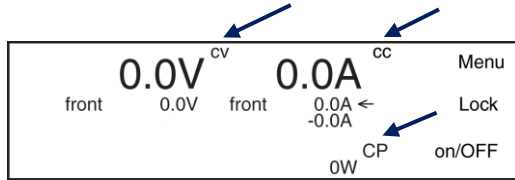

Figure 7.15: A unit is either in CV, CC or CP mode, indicated next to the actual values of respectively the output voltage, output current or the output power.
- Depending on the load and the settings, the unit will be either in CV, CC or in CP mode. See Figure 7.15.